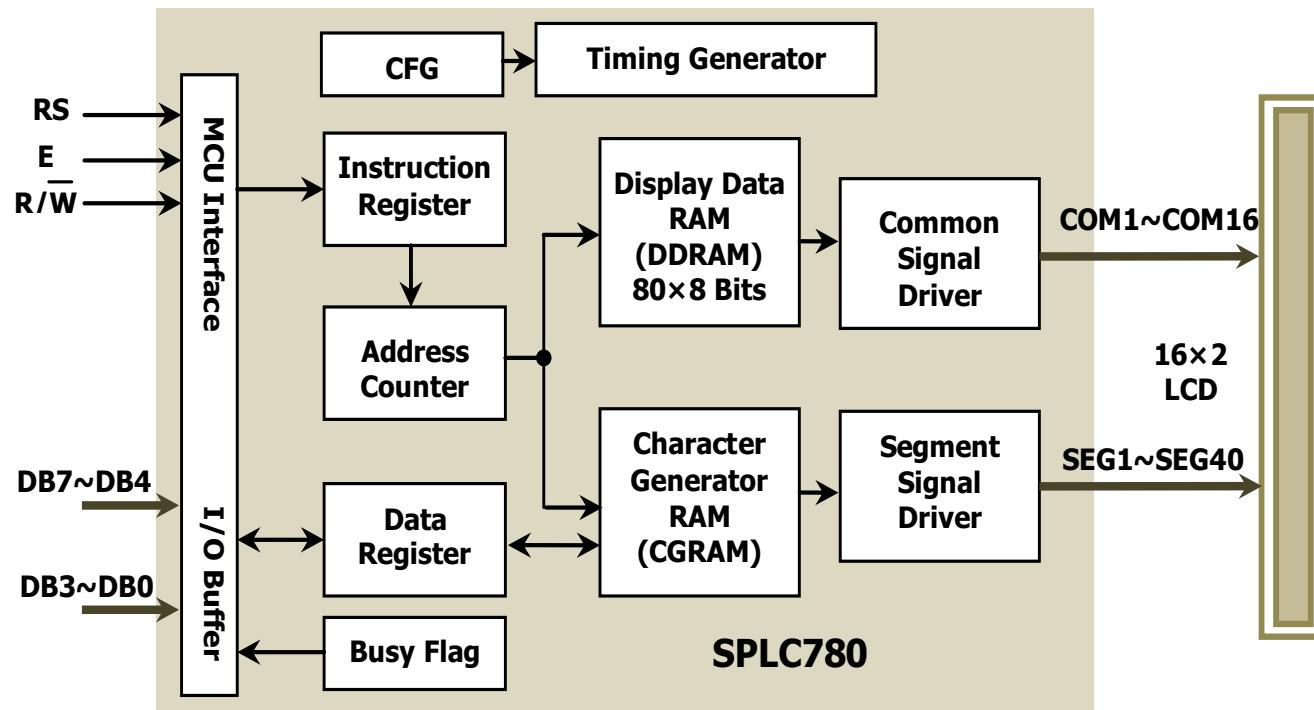

Figure 8.20 Functional block diagram of the LCD Controller SPLC780.
- An internal structure block diagram of the **SPLC780** is shown in Figure 8.20 (next slide).